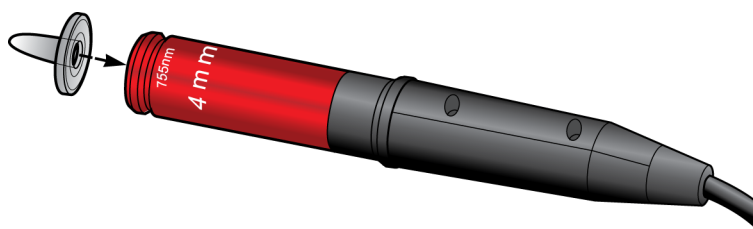

Figure 3-12: Connect Distance Gauge
14. Insert the Distance Gauge onto the Handpiece (see **Figure 3-12**).